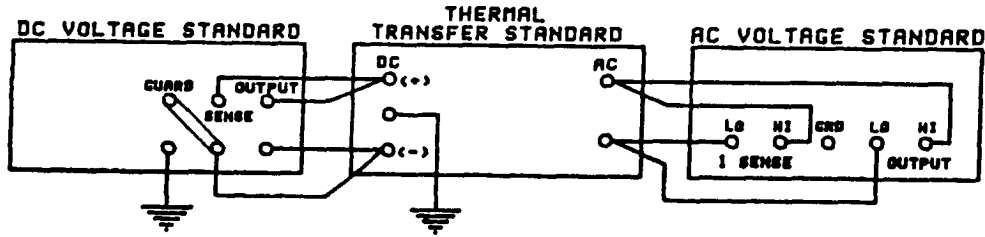

Figure 2.
4.6.1 Connect equipment as shown in Figure 2.
- 4.6.16 Reconnect equipment as shown in Figure 2.